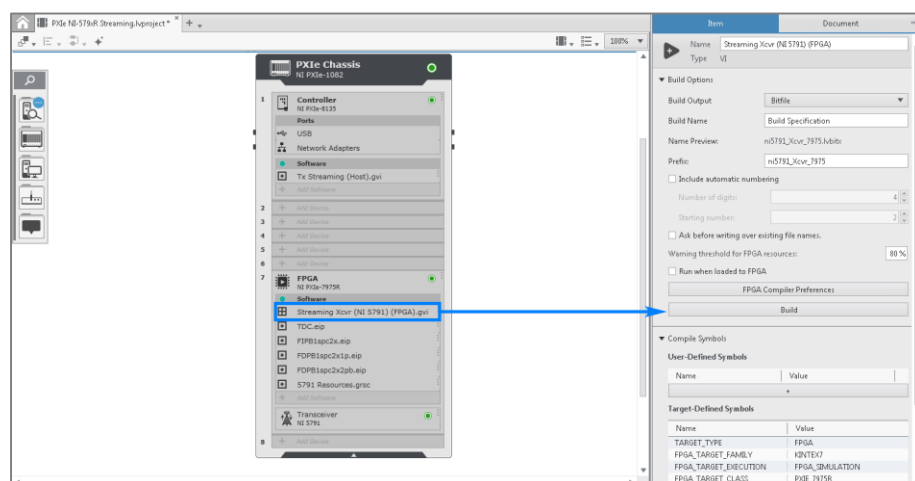

Figure 96: Compile the Project
- c. Click **Build** on the right pane as shown in Figure 96.